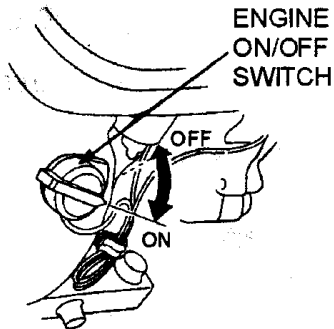
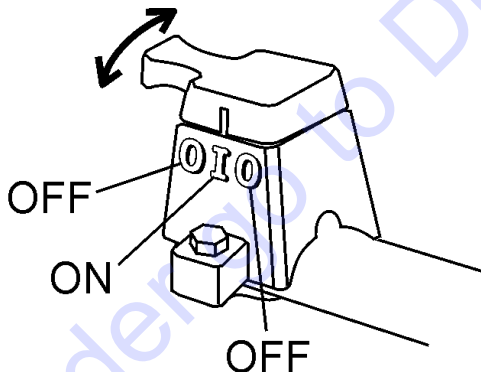

Figure 19. Engine ON/OFF Switch (On Engine)
Figure 20. Engine ON/OFF Switch (On Handlebars)
- Place the ENGINE ON/OFF switch located on the ENGINE (Figure 19) in the "ON" position. Place the ENGINE ON/OFF switch located on the HANDLEBARS (Figure 20) in the "ON" (center) position.